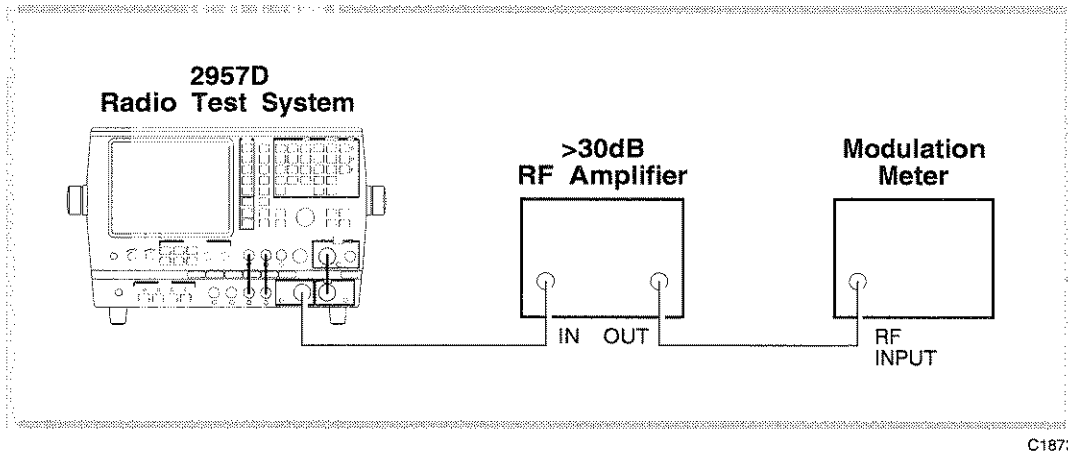

Fig. 5-6 Test equipment for SAT frequency and deviation tests
- (1) Connect the 2957D RF IN/OUT N socket to the modulation meter RF input socket and connect the counter/timer to the modulation meter LF output socket as shown in Fig. 5-6.
- (2) Select Manual Test with the AMPS system selected. D-AMPS should be selected. (If D-AMPS is not selected, it should be selected by pressing the CRTS key, then pressing the following soft keys FULL AUTO TEST, CHANGE FORMAT, SYSTEM PARAMETERS. The SELECT soft key may now be used to select D-AMPS. Return to Manual Test by pressing CRTS key the MANUAL TEST.
- (3) Using the CHANNEL soft key select Channel 334 Analog if necessary.
- (4) Using the Mode soft key select DATA OFF.
- (5) Using the CHANGE soft key, set the Gen. Level to -50 dBm